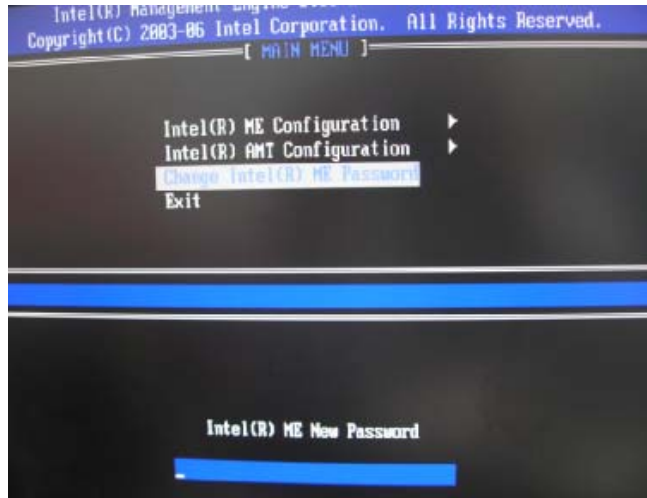

Figure 8-3: Change Intel® ME Password
Step 3: To change the password, select **Change Intel® ME Password**. Enter a new password following the strong password rule (containing at least one upper case letter, one lower case letter, one digit and one special character, and be at least eight characters). (**Figure 8-3**)